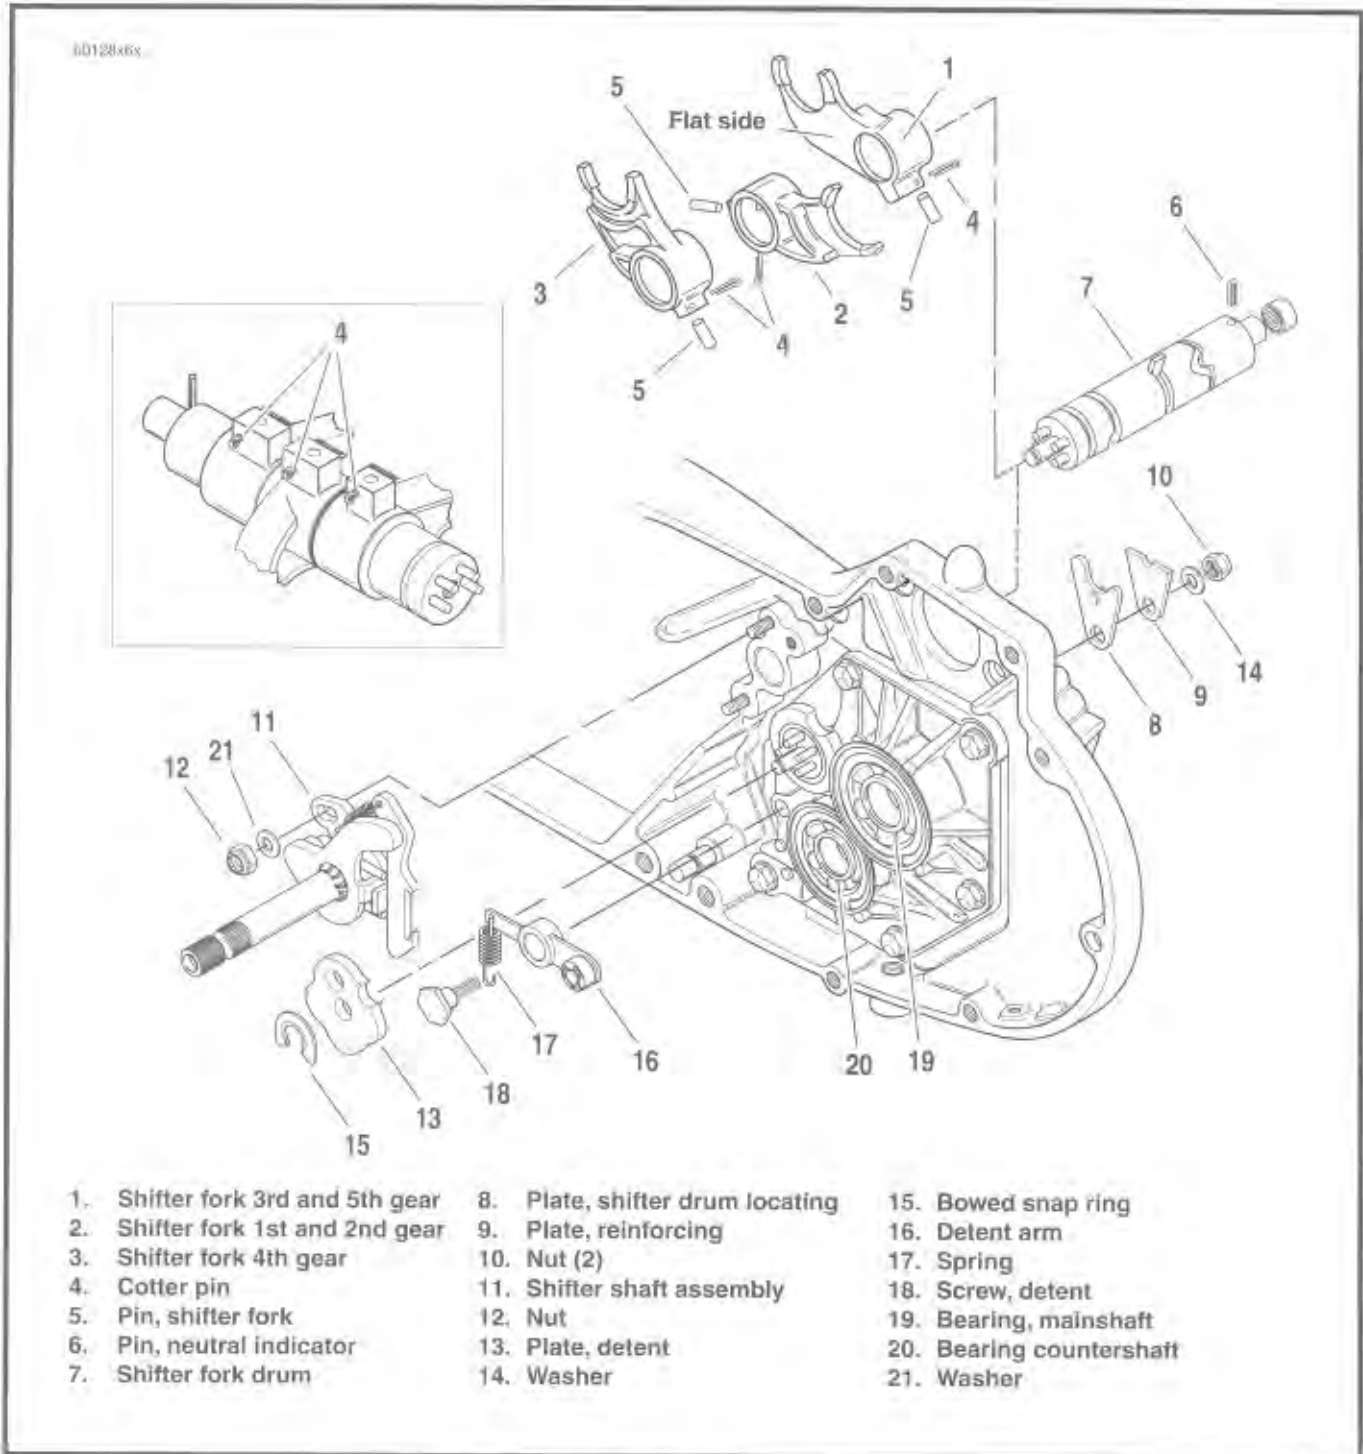
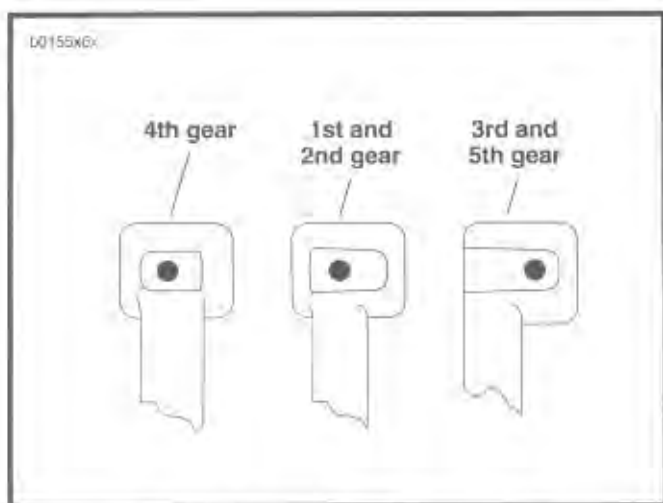

Figure 6-24. Shifter Mechanism
Figure 6-25. Shifter Fork Identification
2. See Figure 6-24. Remove nut (10), washer (14), screw (18), drum lock plates (8, 9), detent arm (16), and spring (17).
3. Remove and discard the three fork cotter pins (4).
- See Figure 6-24. Clean all parts except bearings (19, 20) with solvent.
- Inspect shifter drum (1) for cracks or wear; replace if necessary.
- See Figure 6-25 for shifter fork identification. See Figure 6-24. Lubricate the shaft bore in fork (1) with Sport Transmission Lube. Place 3rd and 5th gear shifter fork (1) in the fork groove of mainshaft 2nd gear. Be sure the flat side of fork is facing the access cover.
- Lubricate the shaft bore in fork (2) with Sport Transmission Lube. Place 1st and 2nd gear shifter fork (2) in the fork groove of countershaft 3rd gear. Be sure the flat side of fork is facing away from the access door.
- Lubricate the shaft bore in fork (3) with Sport Transmission Lube. Place 4th gear shifter fork (3) in the fork groove of mainshaft 1st gear. Be sure the flat side of fork is facing away from the access door.
- See Figure 6-24. Position the shifter drum shaft so that the neutral indicator switch activator pin (6) is upward. The shaft is then in the neutral position. Insert the pin end of drum shaft (7) through the hubs of shifter forks (1), (2) and (3) and through the bearing in access cover.
- Align the hole through the top of each shifter fork with the appropriate cam groove in the shifter drum. Lubricate pins (5) with Sport Transmission Lube. Drop pins (5) through the holes in shifter forks. With a small screwdriver press on the pins while manipulating the forks back and forth until the pin seats in the drum groove. Secure pins in place with new cotter pins (4).
To prevent possible cotter pin damage, the pins must be inserted through the shifter forks as shown in the inset of Figure 6-24.